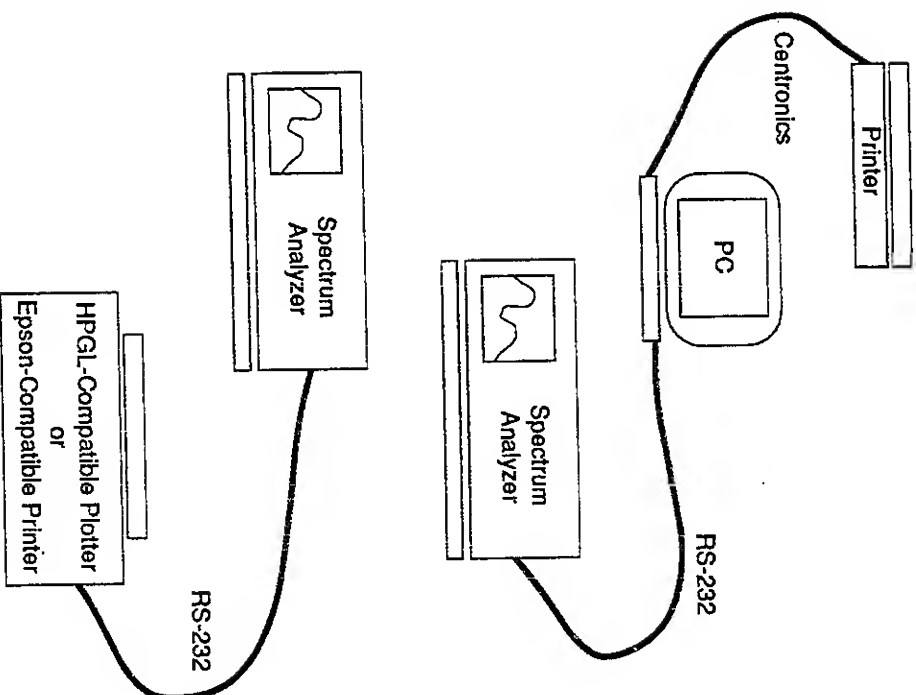

Figure 1-7. Two RS-232 System Configurations.
Figure 1-7 shows two RS-232 system configurations. The top illustration shows a computer (PC) controlling the spectrum analyzer via the RS-232 interface, with a plotter connected to the computer over a Centronics interface. The lower illustration shows the spectrum analyzer connected directly to a plotter via the RS-232 interface.
Only one device (computer, plotter, or printer) can be attached to the spectrum analyzer's RS-232 interface. For systems consisting of a controller and the spectrum analyzer, you can simply connect one end of the interconnecting cable to each device. Figure 1-7 shows two possible configurations. See *Appendix B* for the cable configuration appropriate for your setting.
Figure 1-7, located earlier in this section, shows two alternative configurations using a plotter. A printer could be substituted for the plotter in either configuration.